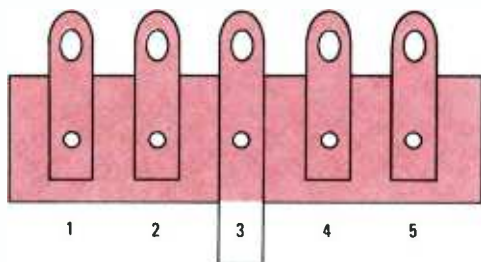

Fig. 6—Five-lug tie point-lug numbers refer to schematic diagram and in the text descriptions related to the photos.
Mount the transformers in the case and install a five-lug tie-point strip on one of the transformer-mounting screws. To connect the components, refer to the schematic (Fig. 5) and the tie-point numbering diagram (Fig. 6).
The design procedure is somewhat similar. Pick a value of R at least ten times the source impedance, but less than one-tenth the load resistance. Then select the closest standard value. See Figure 6. Finally, solve for L. You may want to go back and choose a different R value so that the L value comes out close to one of the limited available standard values.
**Fig. 6—**Figuring out the value for the filter resistor based on the source and load resistances is quick. The resistance should be about 10 times greater than the source resistance, but 10 times less than the load resistance.